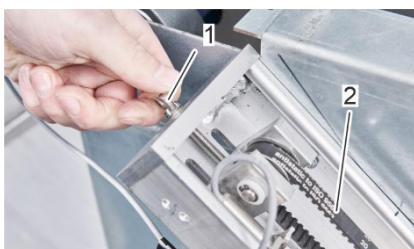

Fig. 33: Loosen the wing nut
12. Loosen the wing nut (Fig. 33/1) by turning it counterclockwise to relieve the toothed belt (Fig. 33/2) tension.
16. Tighten the wing nut (Fig. 33/1) to tension the toothed belt (Fig. 33/2) until both belt strands are parallel to each other.